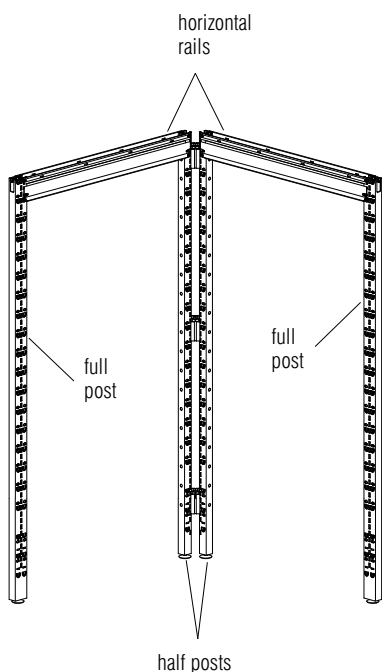

Figure 13
3. Repeat the above instructions, building out in a direction perpendicular to the first horizontals from the corner post. When this step is completed you should have a partially assembled 90° corner that can support itself. **Figure 13.**